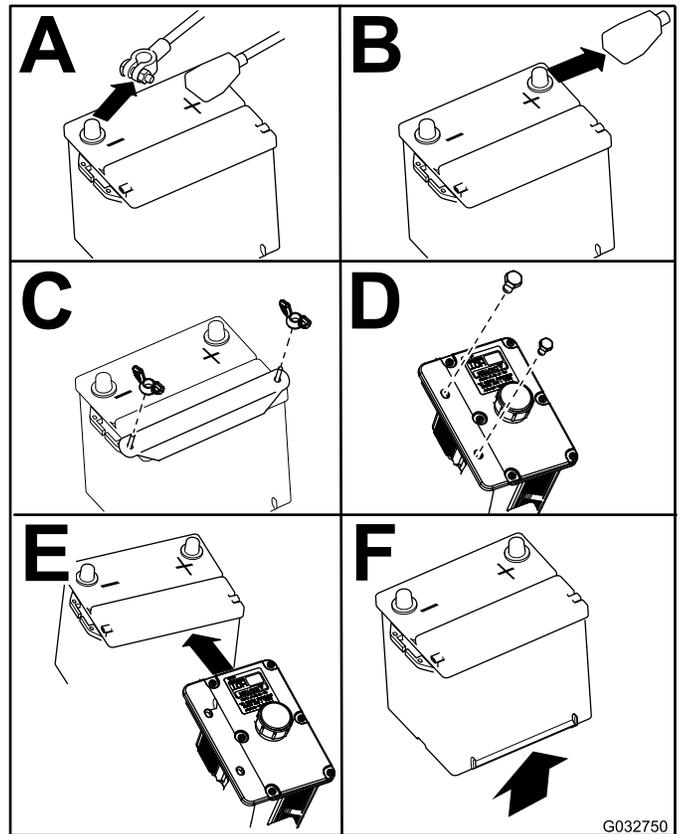

Figure 73
4. Remove the battery as shown in Figure 73.